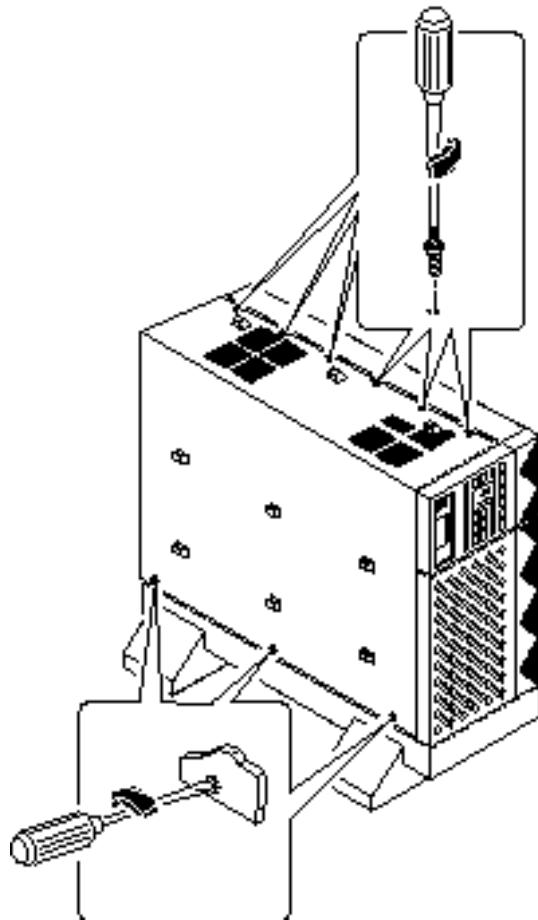

Figure 2-5 Removing the Left Inner Panel
3. Use the Phillips #1 screwdriver to loosen the eight Phillips-head captive screws at the side and top of the left inner panel (Figure 2-5).